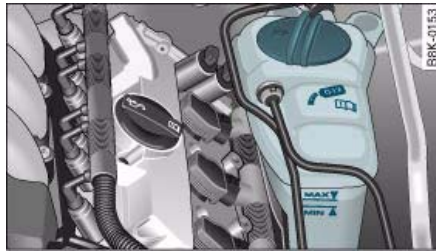

Fig. 257 Engine compartment: Markings on radiator expansion tank
- Read off coolant level on radiator expansion tank ⇒ fig. 257. When the engine is cold it should be between the “MIN” and “MAX” marks. When the engine is hot it may be slightly above the “MAX” mark.
- Cover the cap on the expansion tank ⇒ fig. 257 with a cloth, and **carefully** unscrew the cap anti-clockwise ⇒ ⚠.